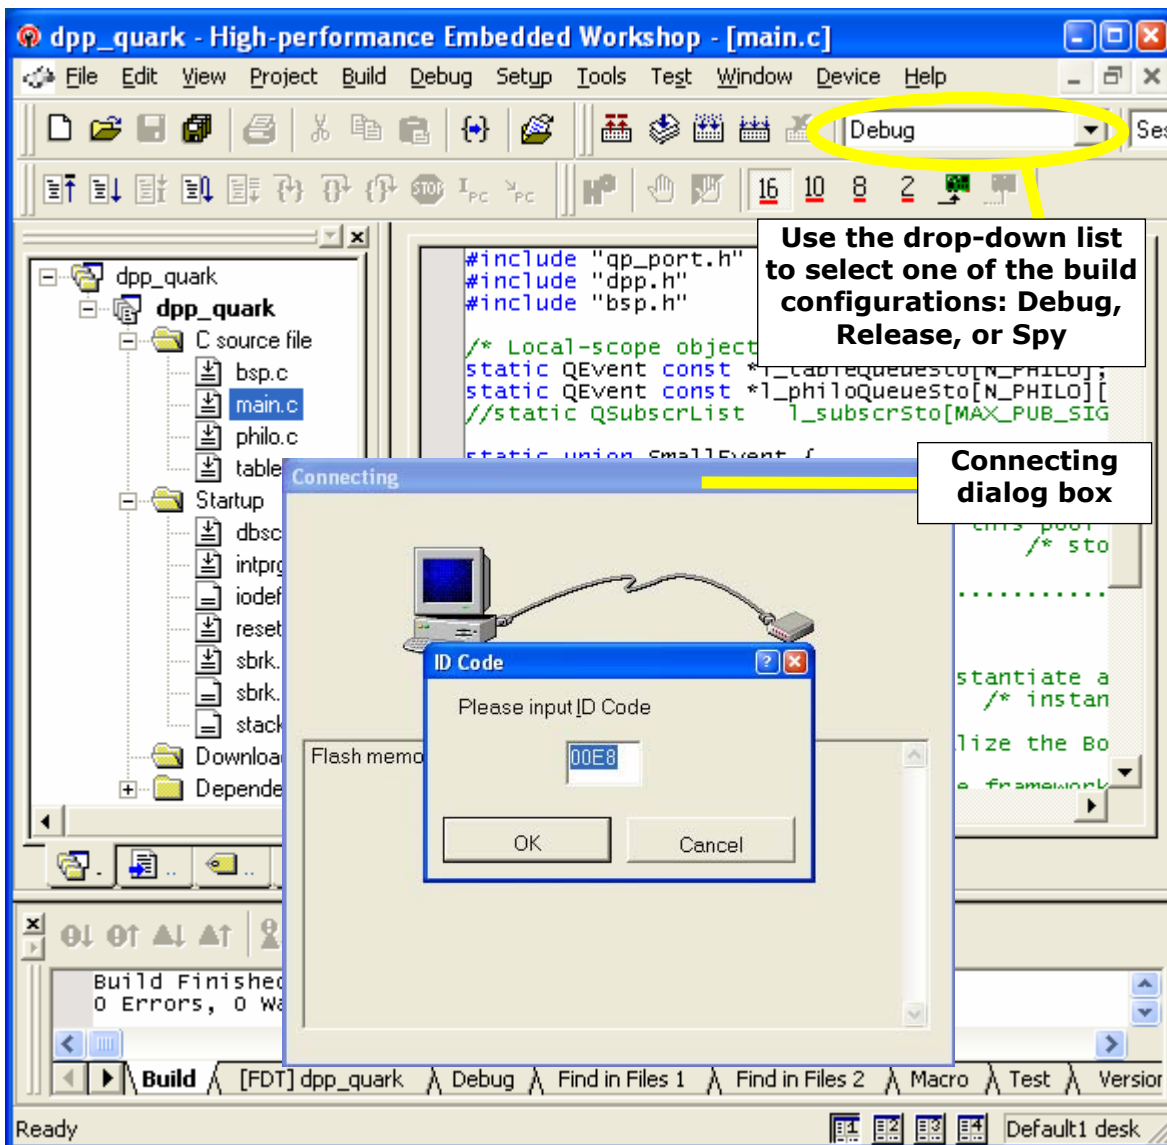
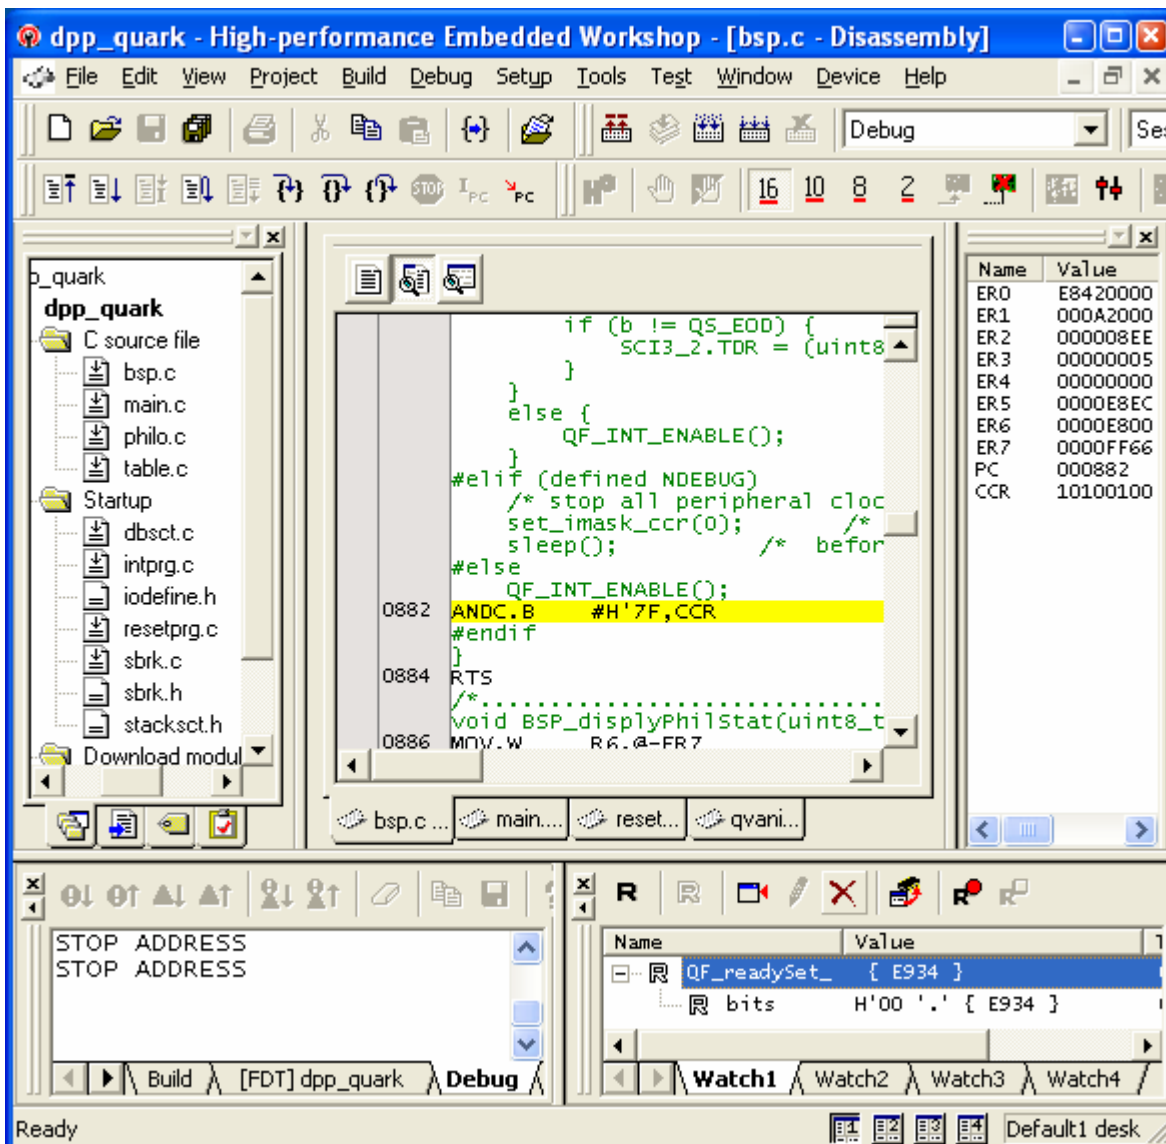

Figure 2 HEW IDE with the `dpp_quark` project.
Figure 3 HEW Debugger with various views of the executing DPP application.
The example directory contains the HEW workspace file `dpp_quark.hws` that you can load into the HEW IDE. The workspace contains two build configurations (Debug, Release, and Spy) that you can select with the drop-down list, as shown in Figure 2.
NOTE: The DPP example workspace comes with three build configurations: Debug, Release, and Spy. You select the build configuration through the drop-down list, as shown in Figure 2.
2. Launch HEW IDE and open the project dpp_quark.hws (located in <qp>\examples\h8\vanilla\renesas\dpp_quark\). Figure 2 shows the screen shot of the HEW IDE after opening the project.
The HEW debugger can directly communicate with the E8 In-Circuit Debugger (see Figure 1). To load the code into the MCU's flash, select Debug | Download Modules menu (see Figure 2). This will launch the progress-bar message box. When the message box window goes away, the MCU is programmed. You can run the example by selecting menu Debug | Go (see Figure 3).